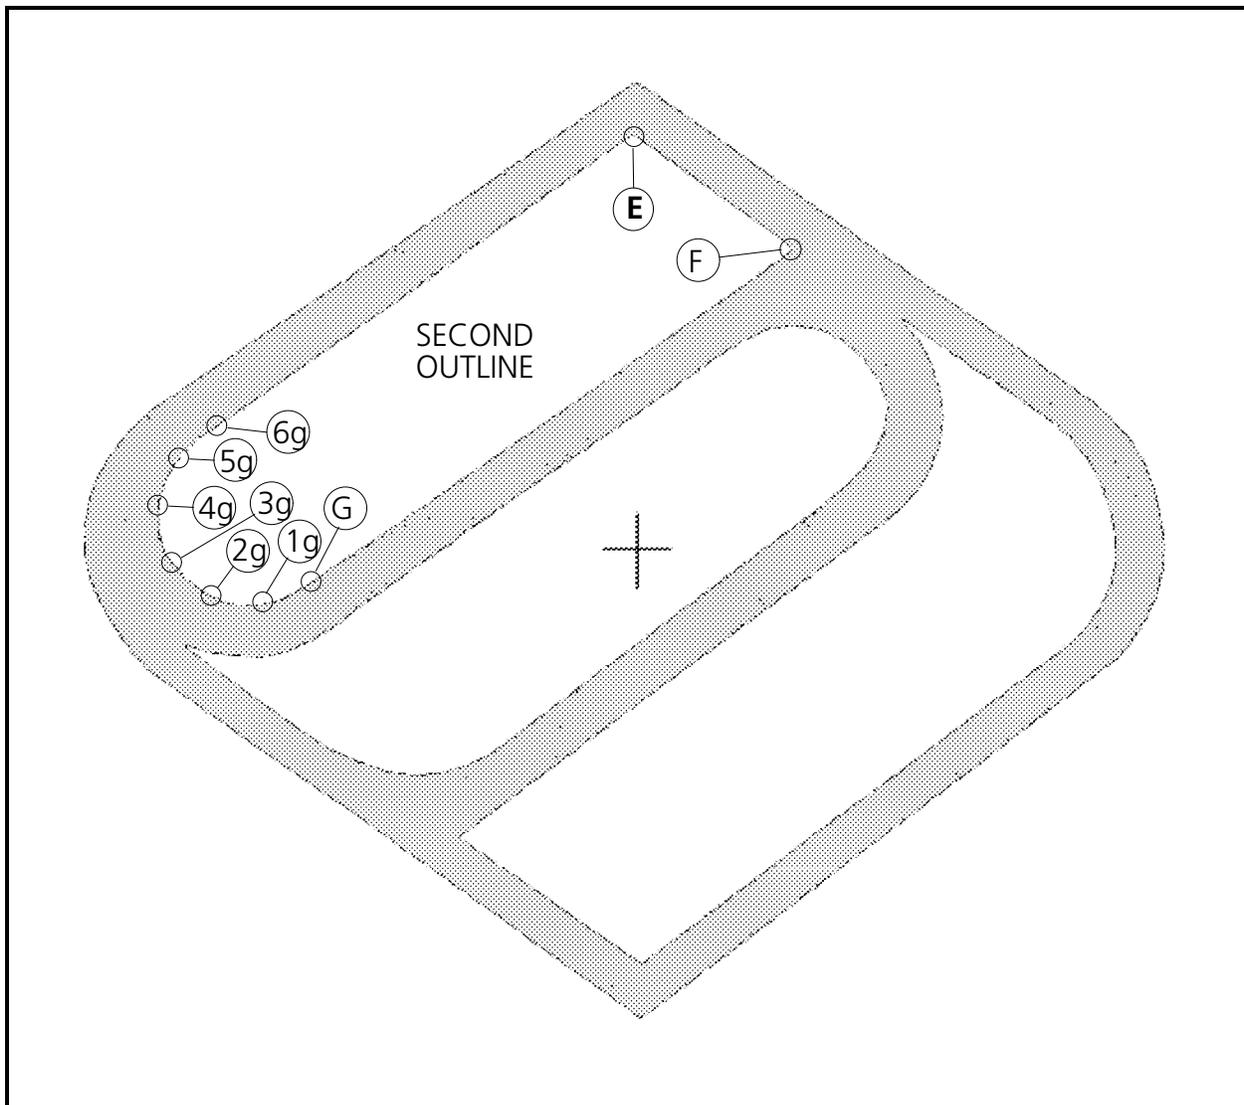

Figure 6-84
1. Enter a Mk1 at point E in Figure 6-84. This is the upper corner point of the top section of the Saurer logo.